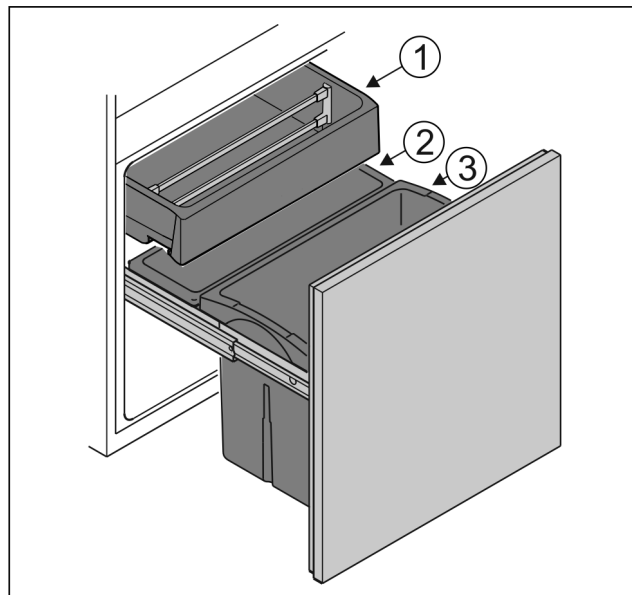

Fig. 4
- Containers *Fig. 4 (1)*: Store loose vegetables and tropical fruit.
- Containers *Fig. 4 (2)*: Store loose small fruit and vegetables.
- Containers *Fig. 4 (3)*: Store individual bottles.